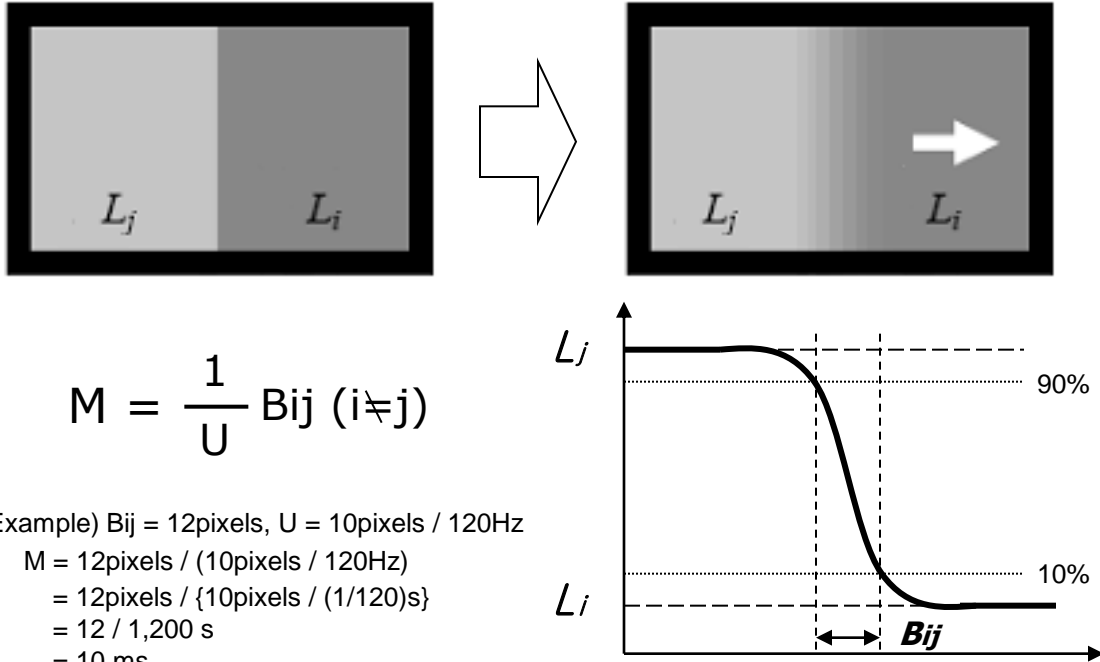

FIG. 4 MPRT
5. MPRT is defined as the 10% to 90% blur-edge width  $B_{ij}$ (pixels) and scroll speed  $U$ (pixels/frame)at the moving picture. For more information, see FIG 4